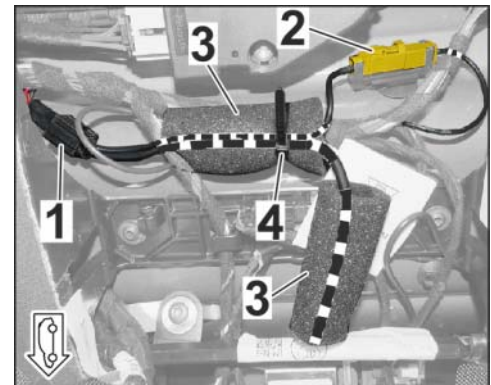

Figure 14
Slide further protective foam roll onto the lines if necessary. ⇒ *Figure 14*
2.3.4 Connect power supply pre-fitting plug (roof console at the left in direction of travel). ⇒ *Figure 14 -1-*
- 2.5 Secure installed wiring harness in vehicle with cable ties to existing wiring / components ensuring no abrasion or tensile stress. ⇒ *Figure 14*